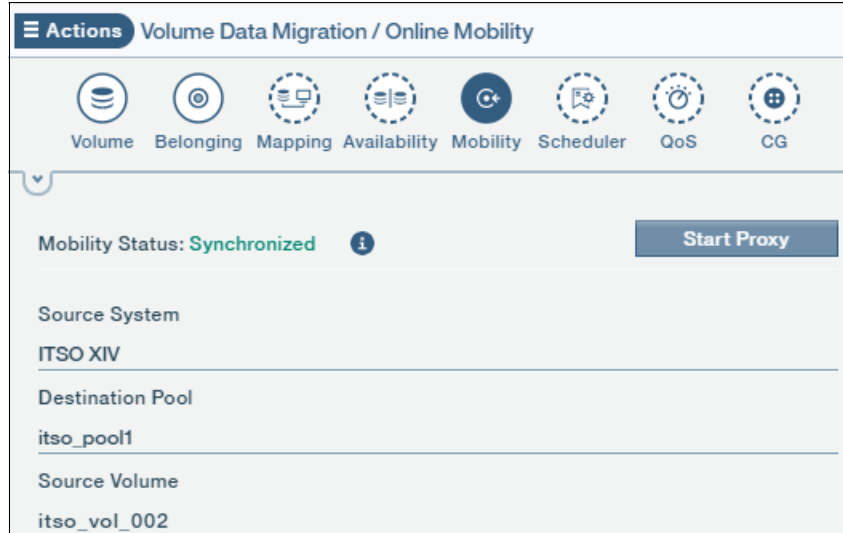

Figure 7-38 Synchronized state
1. Validate the Mobility status as shown in Figure 7-38 and Figure 7-39 to ensure that it is ready for Proxy mode.